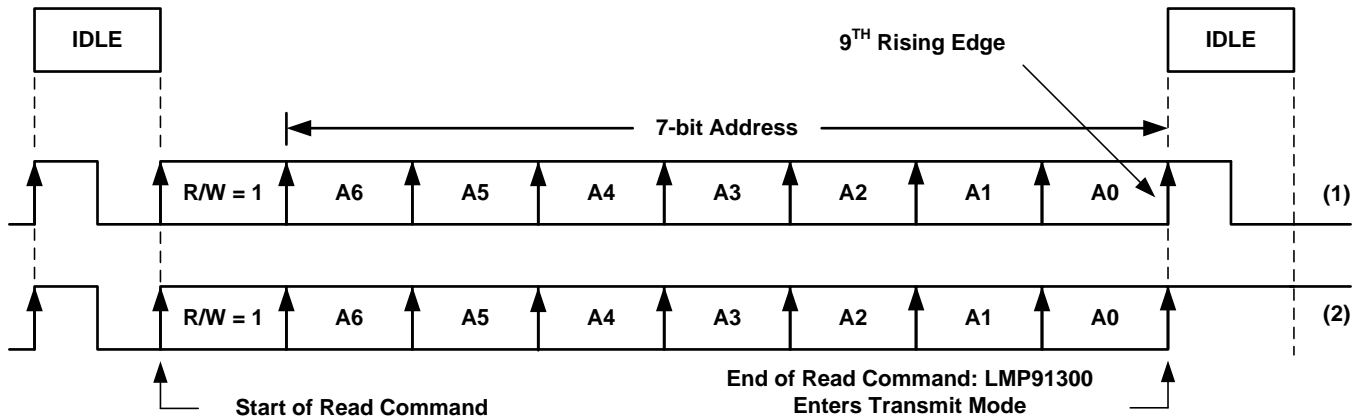

Figure 17. Read Timing Example: (1) Single Pulse, (2) Hold Signal High After Last Rising Edge
The read signal is made by modulating the supply current. This can be read by using a SENSE resistor in the supply line. The LMP91300 modulates the supply current by sinking current into the LED terminal. The V+/EXT and LED terminals need to be connected by either an LED, resistor, or directly shorted for the Read operation to work. To perform a read operation, the master must send an IDLE bit to initiate communication, a R/W bit that should be set to 1, a 7-bit address, and another IDLE bit. Data is written back after the R/W and address byte are received so there must be a 9th rising edge to ensure that this condition is satisfied. After the last bit, A0, of the address is sent there should only be one rising edge to perform the IDLE bit. There are two valid methods of providing one rising edge, (1) a single pulse, or (2) a rising edge with the signal held high. See Figure 17 for a timing example of both cases.